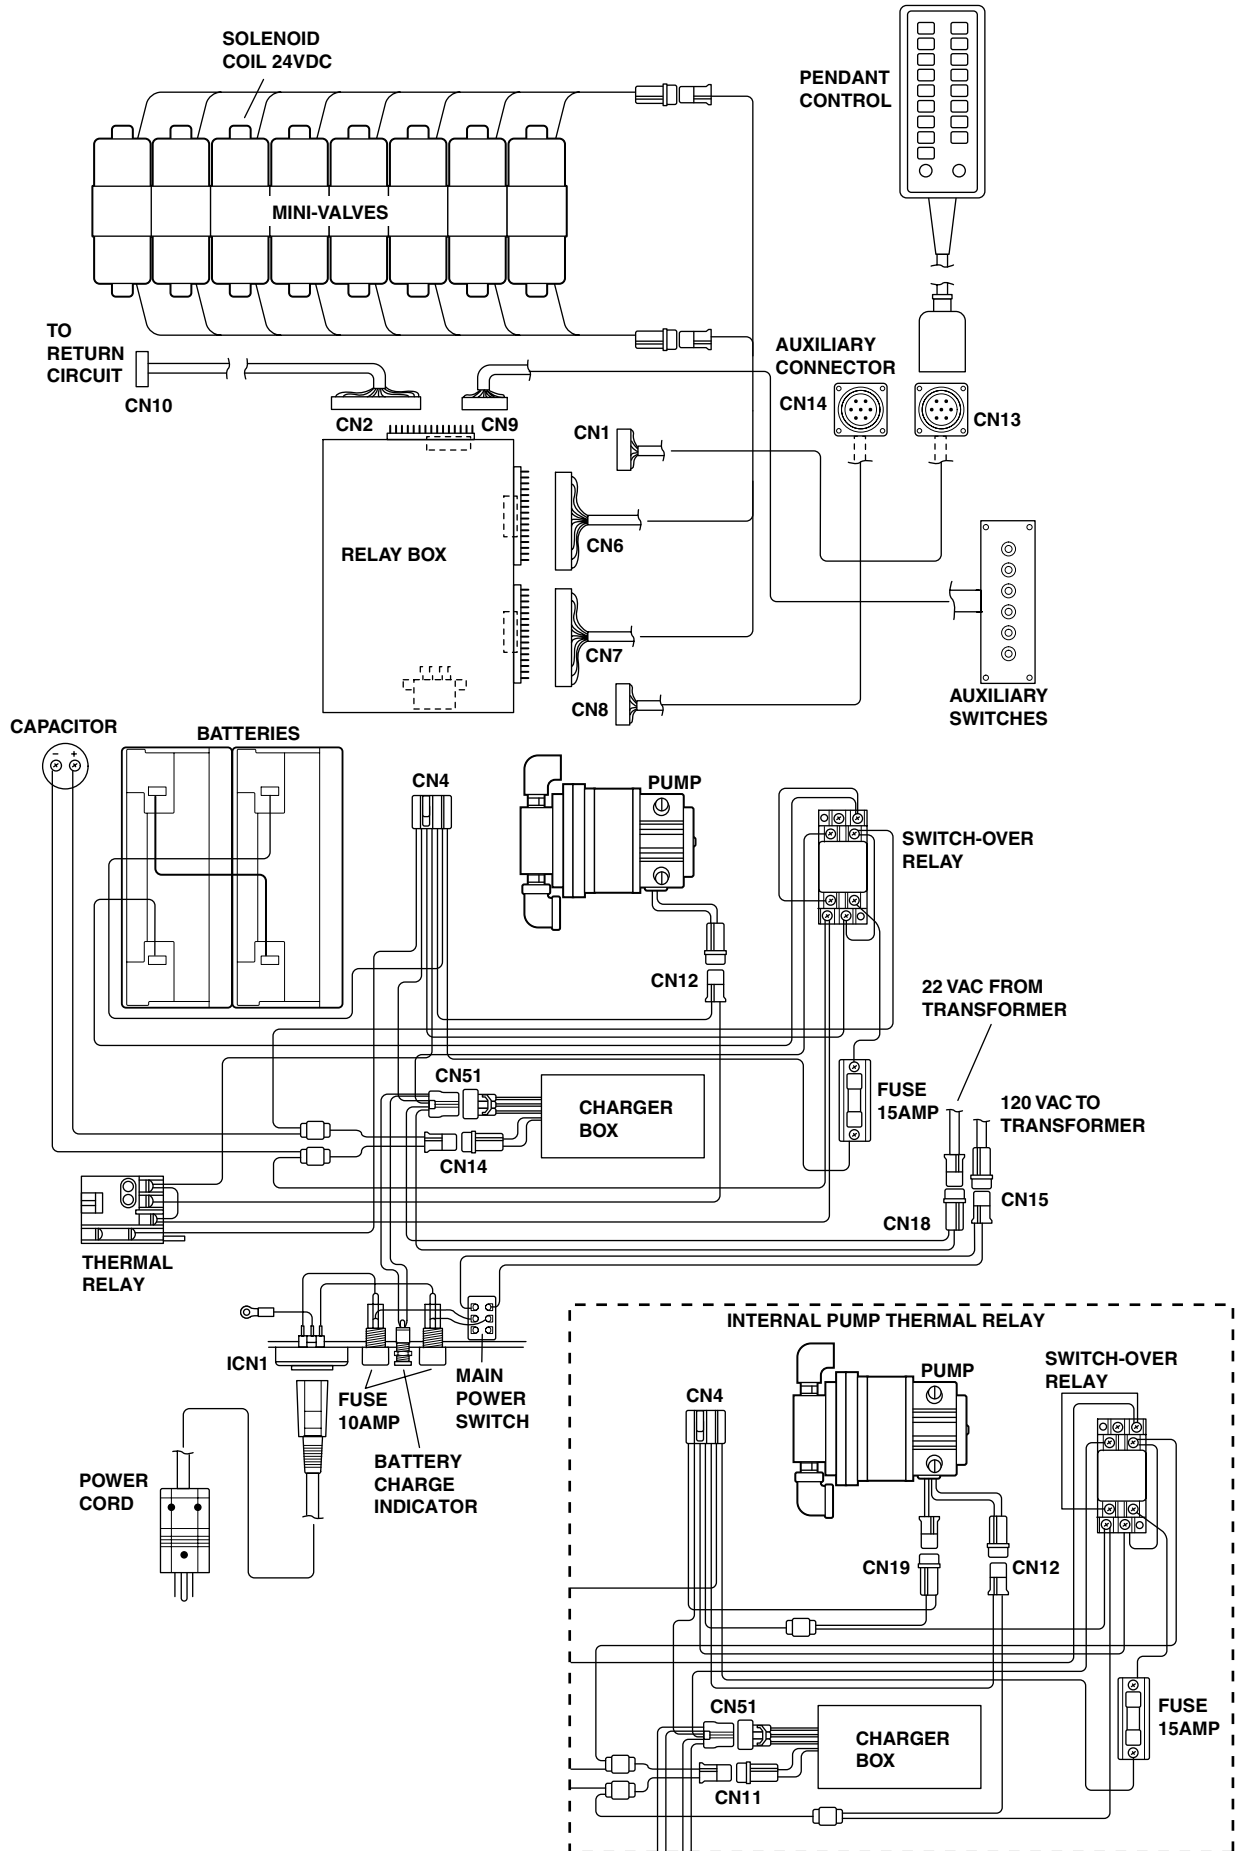

Figure 7-1. Electrical Circuit Block Diagram, Model 6500NB
2. Disconnect connector CN15. See figure 7-1. Leave all other connectors connected.